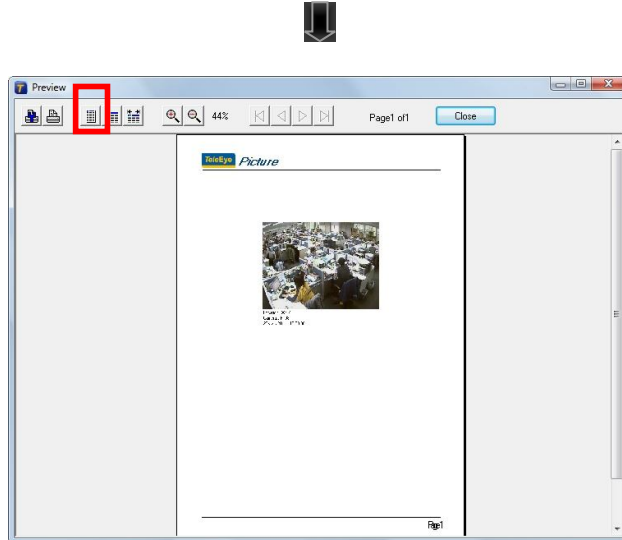

Fig 11.2d
Step 3 : Click [**Fit Page**]  icon to preview the picture in fit page size as shown in **Fig 11.2d**